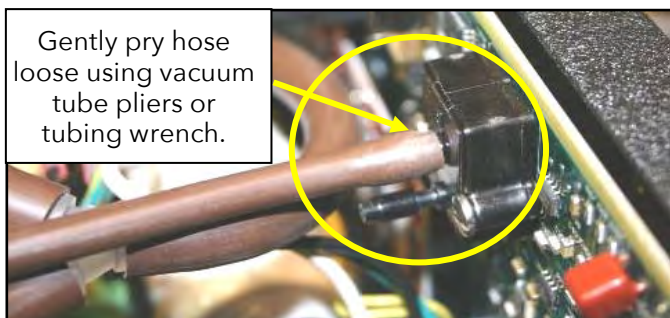

Figure 5. PRESSURE TRANSDUCER.
- Using tubing wrench or vacuum tube pliers, gently disconnect the outlet manifold air hose from the upper port of the pressure transducer. Refer to Figure 5. Once disconnected, move the hose out of the way.